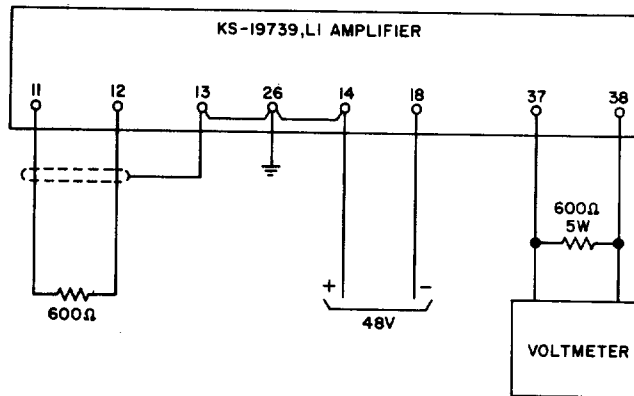

Fig. 3—Test Setup for Noise Test
8.01 The test setup for this test is shown in Fig. 3. The amplifier should be grounded
1	Terminate the amplifier with the 600-ohm, 5-watt resistor and the model 400 voltmeter connected across terminals 37 and 38 of TB1. See Fig. 3.